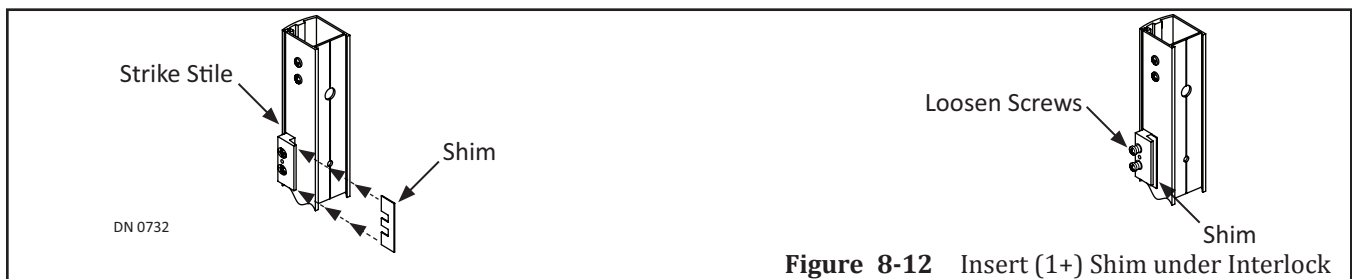

Figure 8-12 Insert (1+) Shim under Interlock
1. Obtain (1) package containing Shim and Roll Pins that was taped to door by NABCO.
2. Slide (1+) shim under the Interlock until proper engagement can be obtained. Please see Figure 8-12.